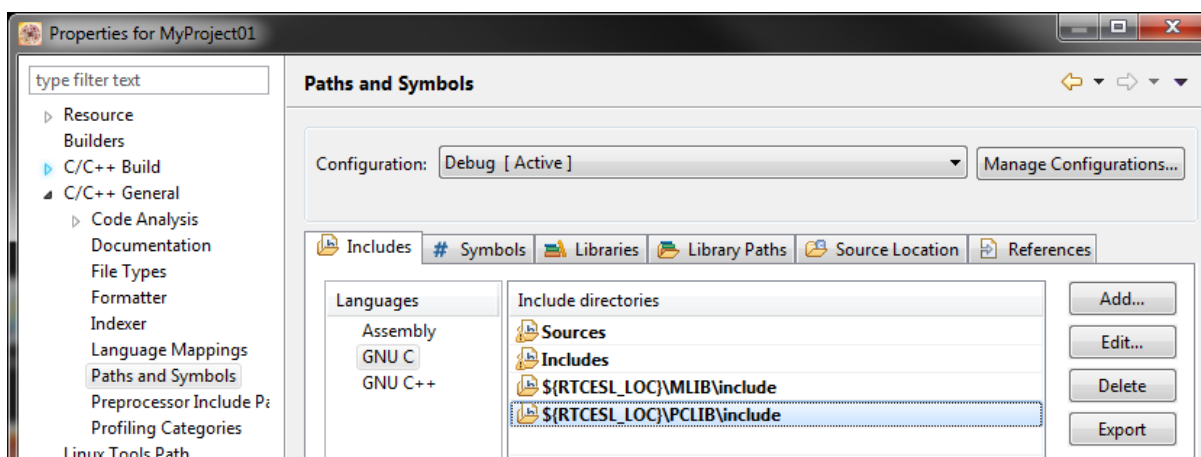

Figure 1-16. Compiler setting
15. In the right-hand dialog, select the Includes tab, and click GNU C in the Languages list. See Figure 1-16.
20. Click OK, and you will see the added in the list. See Figure 1-16. Click OK.